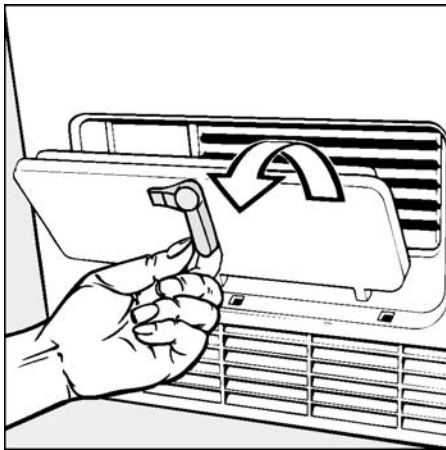

Figure 3-1: Opening the cover to the Heat Exchanger
2. Turn the lever so that it is in a vertical position (as shown in figure 3-1).